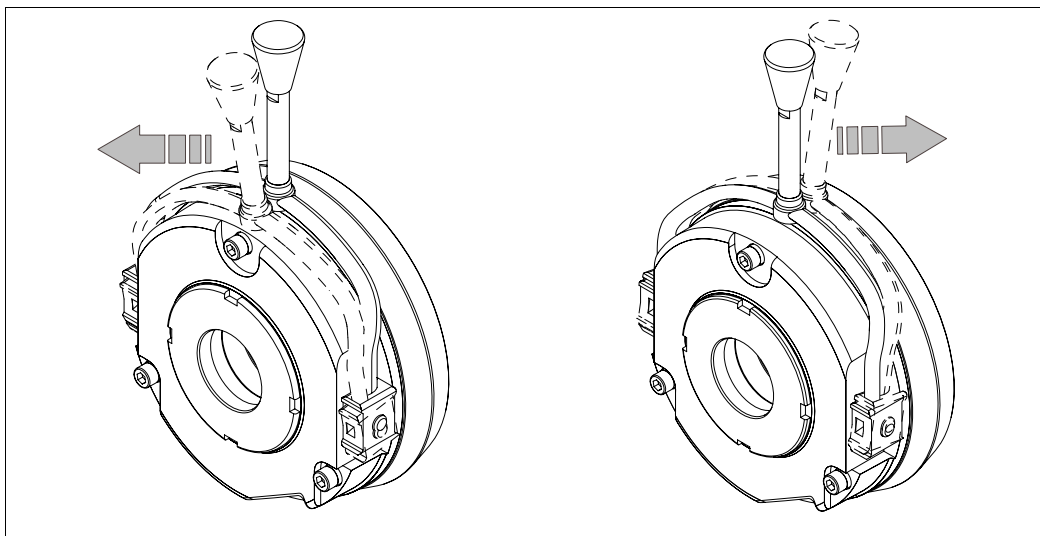

Fig. 20 Turning direction of the lever
1. Pull the lever (Fig. 20) with approx. 150 N until the resistance increases strongly.